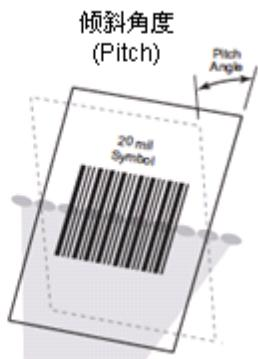

Fig. 1-12
- ✧ Pitch :  $\pm 55^\circ$ ,  $0^\circ$  Roll and  $0^\circ$  Skew (Fig. 1-12)